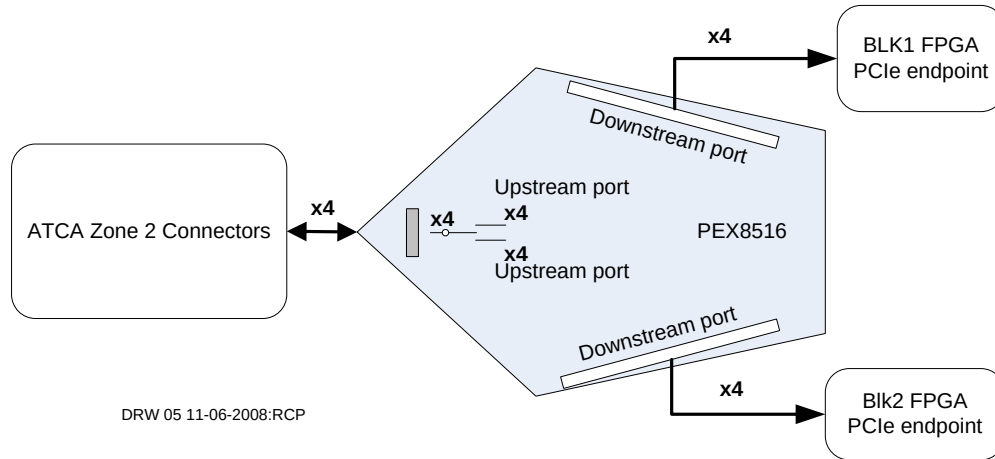

Figure 3-12: PCIe switching diagram block
ExpressLaneTM PEX 8516 device [7] offers PCI Express switching capability, enabling users to add scalable, high-bandwidth, non-blocking interconnection to a wide variety of applications. This device has a flexible port width configuration and is used as a fan-out application. The upstream (US) and downstream (DS) ports are all configured as x1 although the board design is compliant with x4. There is the possibility of US port (connected to ATCA channels) be chosen from two different ATCA channels (this choice is settled by hardware strapping, dependent on where the controller is placed at the crate) and the two DS ports are connected to each block FPGA PCIe endpoint as illustrated in Figure 3-12.